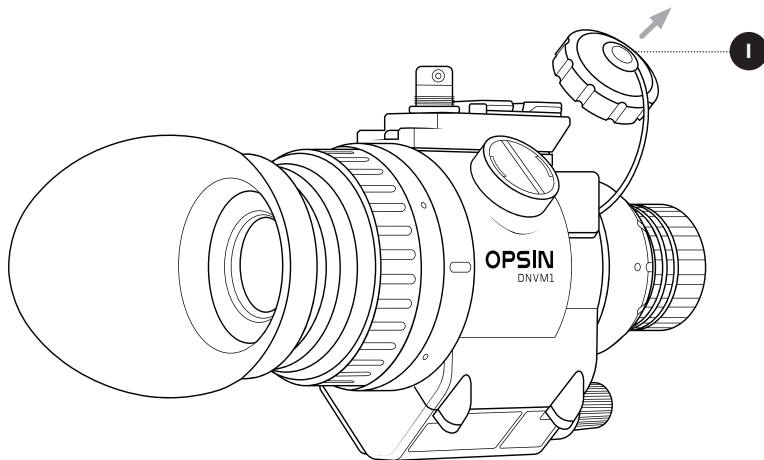

FIGURE 8:
1. Remove the **SD CARD COVER** by rotating counter-clockwise. Refer to **FIGURE 8**.